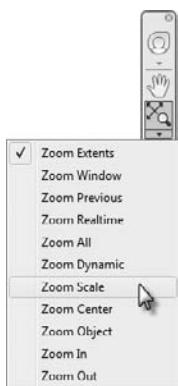

FIGURE 4.18 Selecting the Zoom Scale option from the navigation bar
2. Expand the Zoom option found on the navigation bar (Figure 4.18) and click Zoom Scale. When prompted to Enter a scale factor, enter **0.75x**. The drawing zooms out a bit.